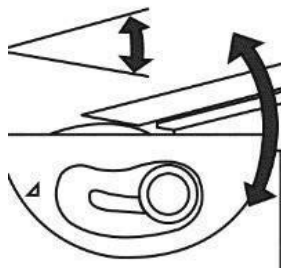

Fig. 11
3. Adjust the sharpener's grinding angle to match the beveled angle of the tool's blade (Fig. 11). To accomplish this, achieve the following:
- a. Loosen the angle adjusting knob (C)